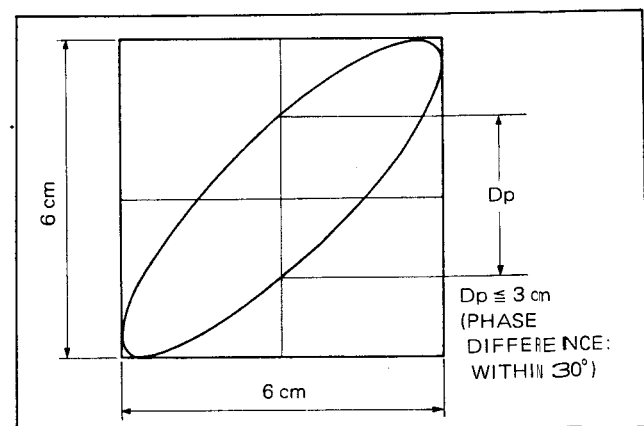

Fig. 10-38. Audio/CTL Monitor Head Azimuth Adjustment of Audio 15 kHz Playback
7. Check that the phase difference between the audio-1 channel and the audio-2 channel is within 30 degrees. See Fig. 10-38.